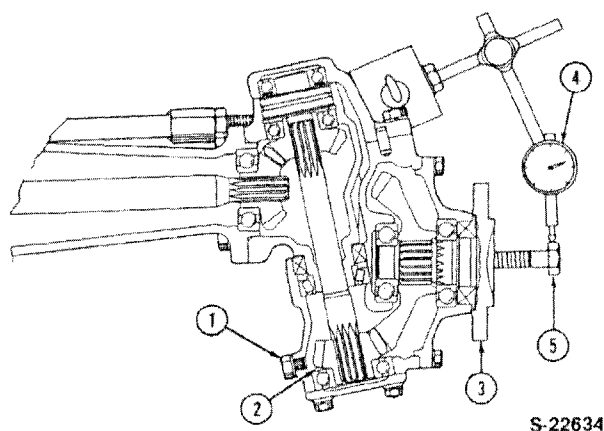

Figure 36
Reference — Figure 36
3. Install a bolt in the wheel hub flange and attach a dial indicator as shown, Figure 36.